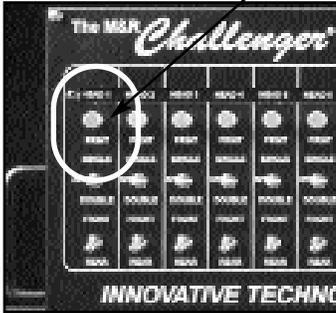

Fig. 2
- **Independent Print: (Figure 2)**